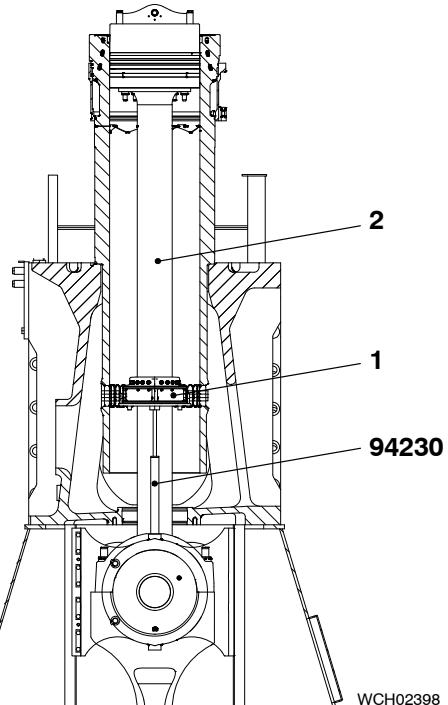

Fig. 2
- 2) Attach the two distance holders 94345 to the piston rod 2 (see Fig. 2).